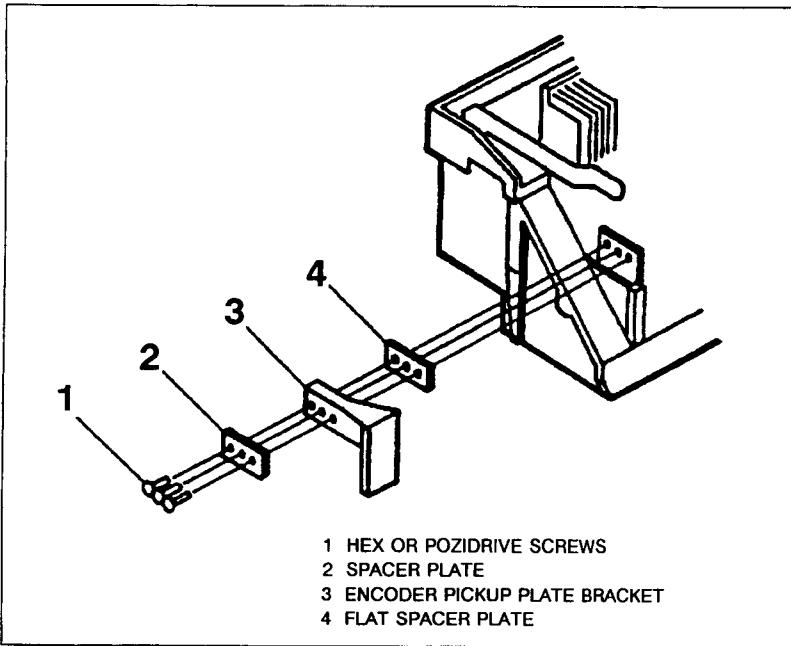

Figure 6-11. Print Mechanism (Left End View)
e. At the left-end of the print bar remove the following in the order listed (see Figure 6-11):